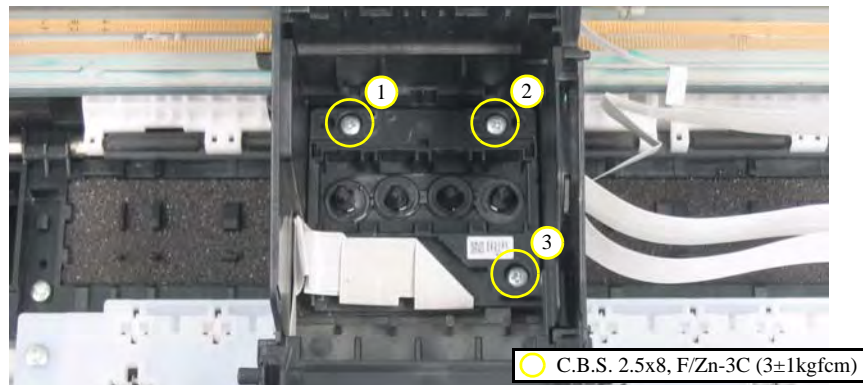

Figure 4-34. Removing the Printhead (1)
- Tighten the screws in the order given in Figure 4-34.